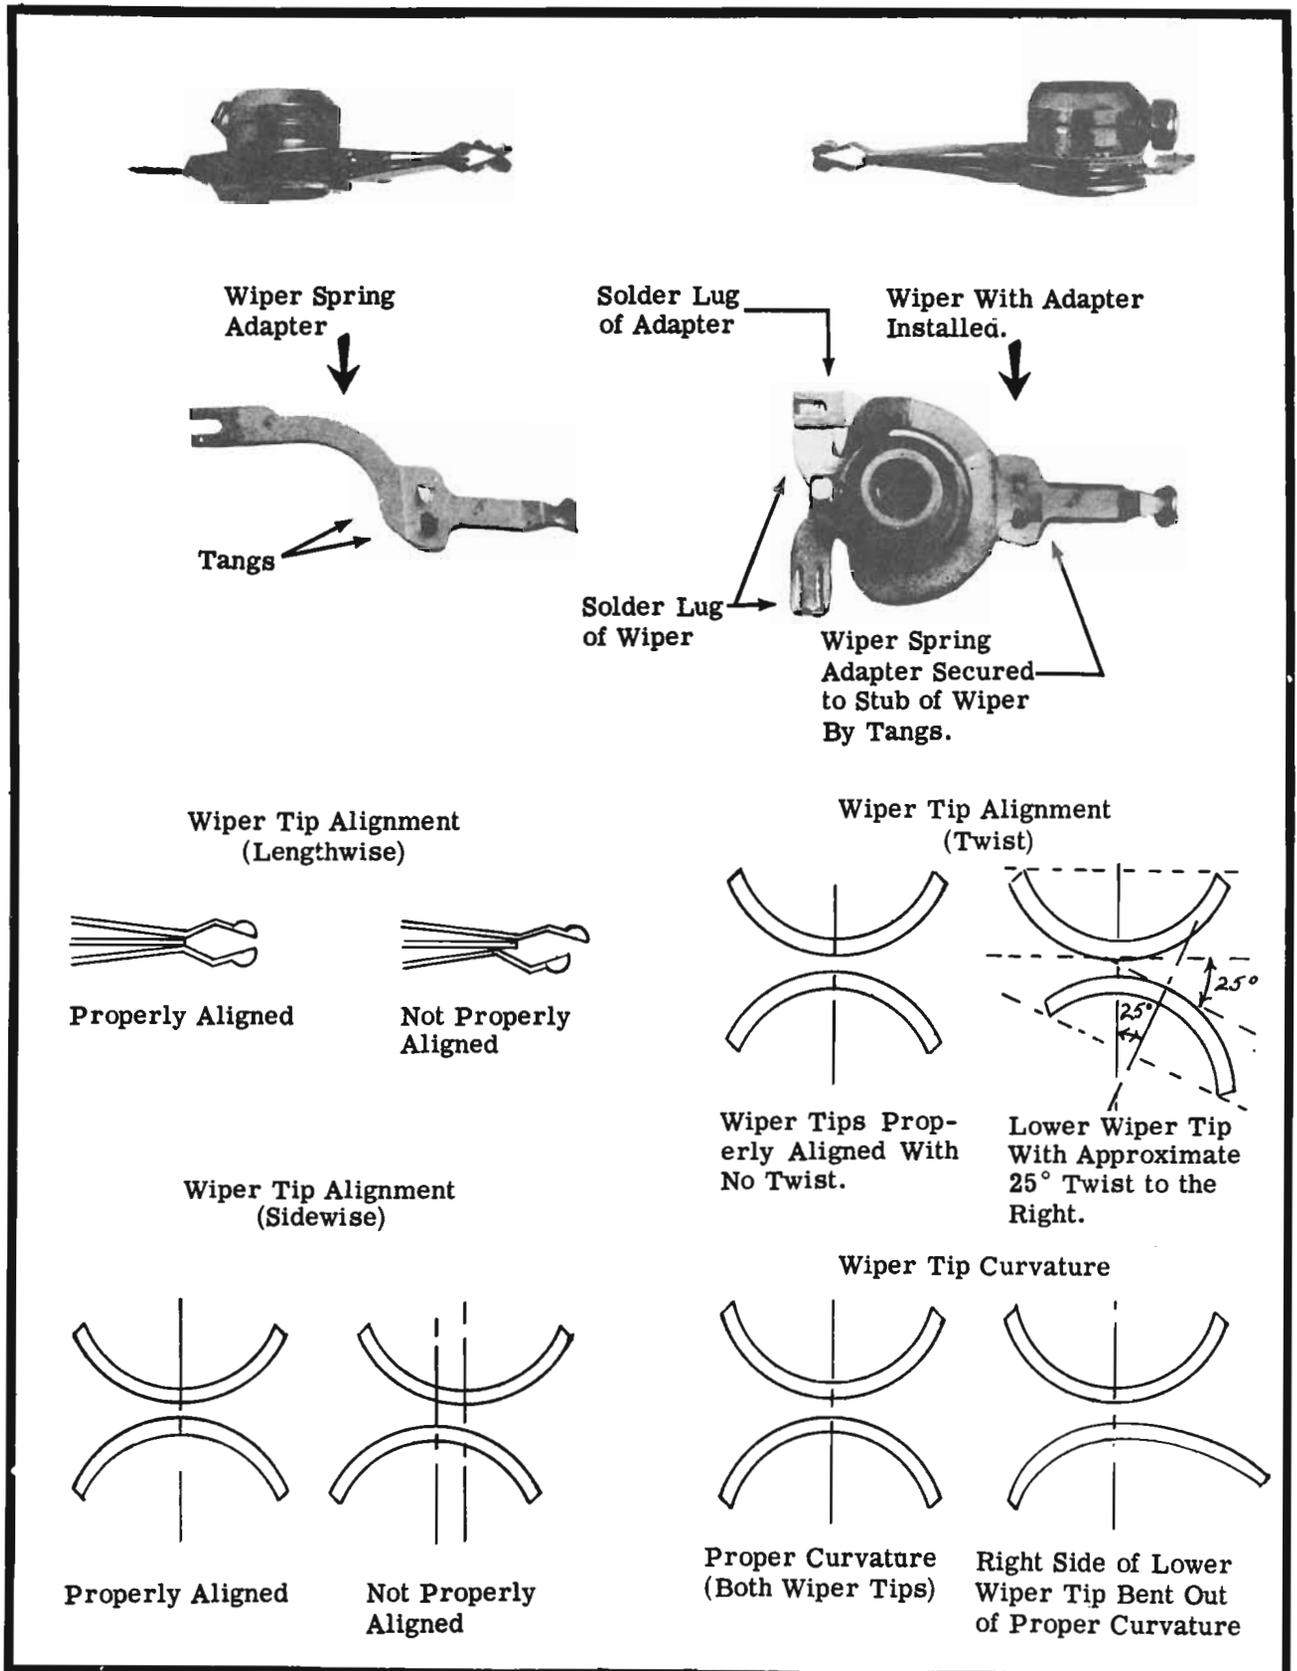

Figure 3. The Above Are Wiper Spring Assemblies, Wiper Spring Adapters, and Examples of Alignment.
1.04 Check that wiper tips are aligned (Fig. 3). If they are not properly aligned and adapters are not used, replace wiper assembly. If adapters are used, realign adapters. Do not replace complete assembly when adapters are used. If adapter is defective, replace adapter.